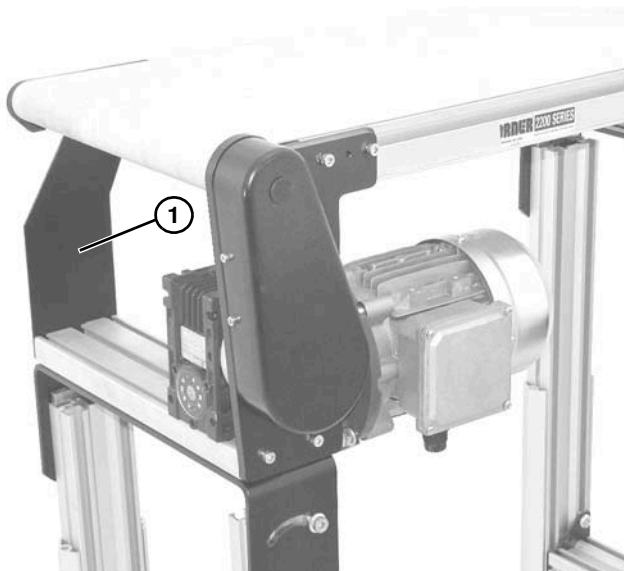

Figure 57
5. If equipped with a heavy load drive package, install drive support bracket (**Figure 57, item 1**).